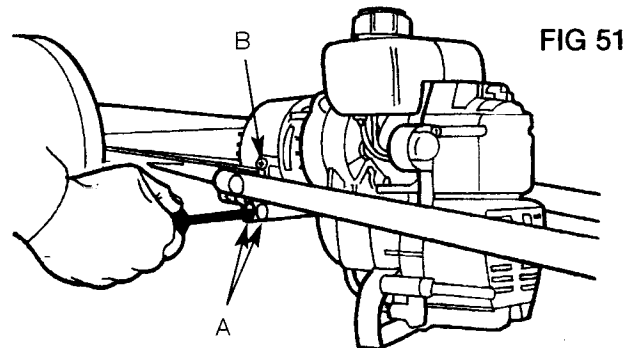
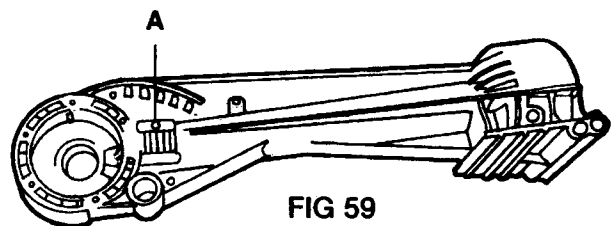

FIG 51
FIG 59
1. Preferably use a No. 25 Torx Screwdriver, loosen 2 screws (A) located in 2 holes and 1 screw (B) (Fig. 51).
5. Remove bearing holding screw (A) or with some models, push out locating bearing pin (Fig.59). Engine should be removed (see Removing Engine - previous page, Figs 51 & 52).
5. Fit bearing location screw (See Fig. 59 marked A) and leave nut loose.